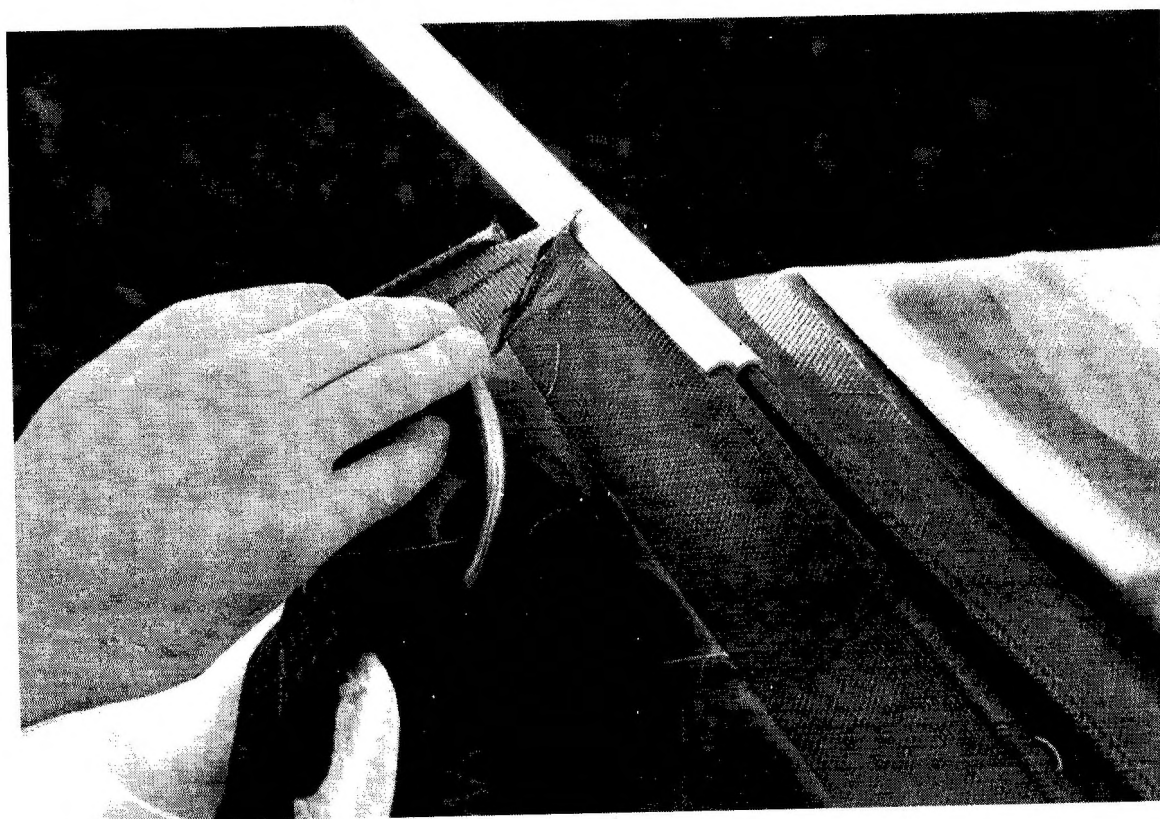
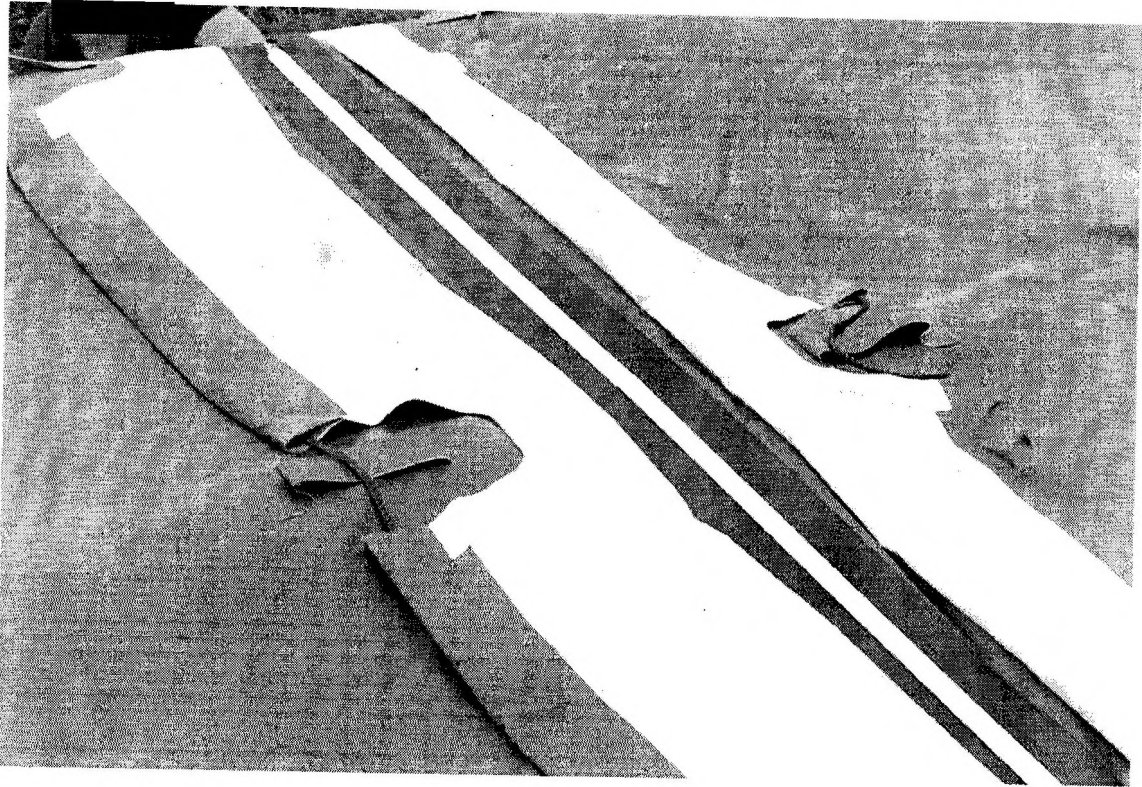

Figure 24: Adjusting flap positions at joints
Figure 25: Keder Rail Installation
36. Inserting the keder rail is a two (2) person operation, insert the rail from above (see Fig 24 below) whilst a second person holds the keder beads together, this allows the rail to slide freely. Keder rails are fitted to each side of the roof (J11/8340-99-477-5695) (Qty 6 in each roof section, total 18 in the roof), one after the other and pushed into place so that they are just short of the eave and apex positions Fig 25.